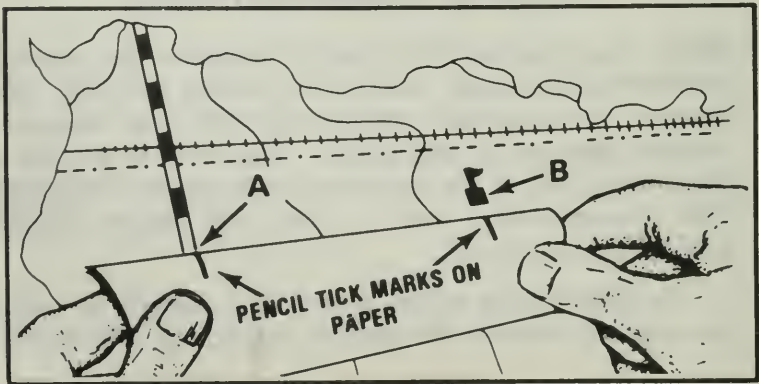

Figure 46. Measuring distance.
a. Take a ruler or the edge of a piece of paper and mark on it the straight-line distance between two points (Figure 46).